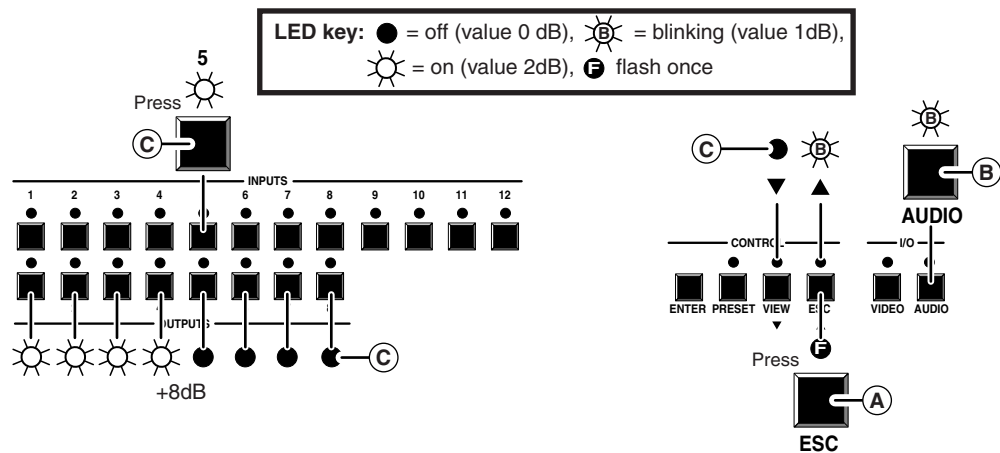
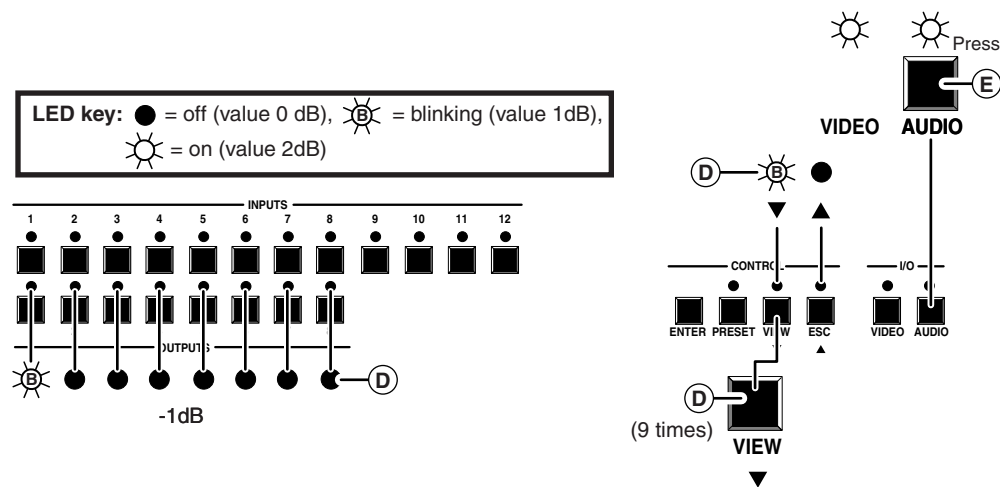

Figure 3-14 — Example 8: Viewing the audio level
Figure 3-15 — Example 8d: Adjusting the audio level
See figure 3-14 and figure 3-15 and the following steps for an example of viewing and adjusting the audio level on a 12x8 Matrix 50 switcher with audio.
- (D) Press and release the View (▼) button once to decrease the audio level displayed by the output LEDs by 1dB. Press and release the View (▼) button several more times to decrease the audio level displayed by the output LEDs by an additional 1dB per button push. Note the output LED, View LED, and Esc changes that occur each time the View (▼) button is pressed and released. Figure 3-15 shows the result of pressing the View (▼) button a total of 9 times. Note that the Esc (▲) LED has turned off and that the View (▼) LED is blinking to indicate a negative level.